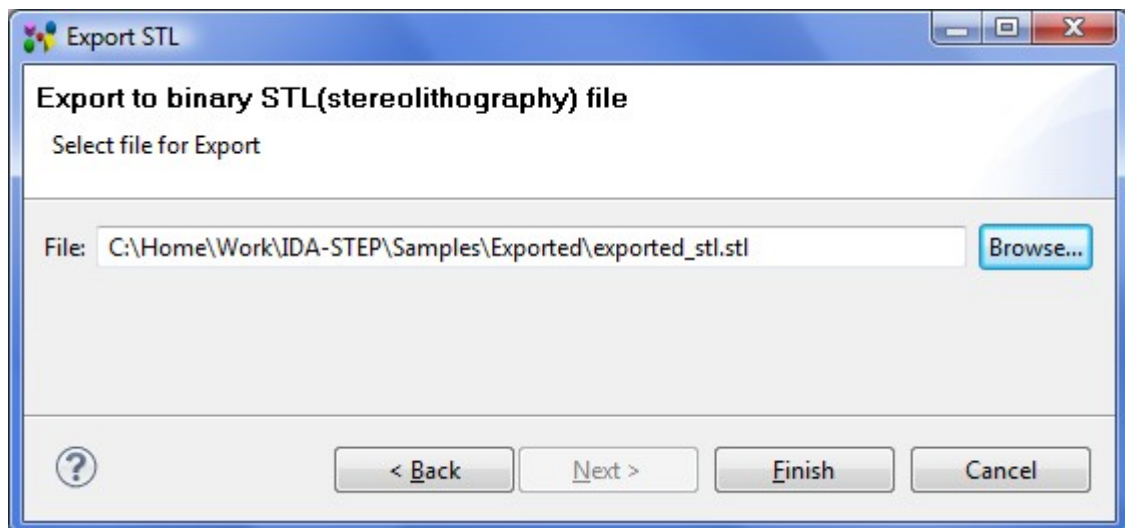

Figure 2. Export STL wizard page to locate stl file
- The **Export STL** wizard page appears to locate the file to be created (see Figure 2):